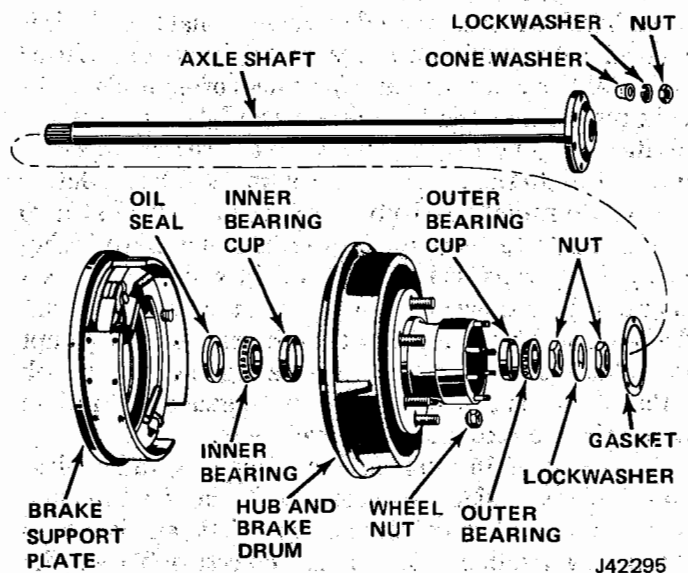

Fig. 2H-10 Model 60 Rear Axle Hub and Bearings
(1) Remove axle shaft attaching bolts, lockwashers, and cone washers (fig. 2H-10).